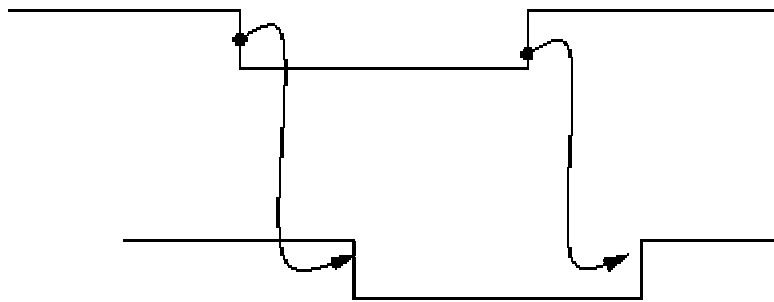

Figure 4: Cause of Signal Change
6. Indicate situations where an edge on one signal causes a change in another signal, as shown in Figure 4.